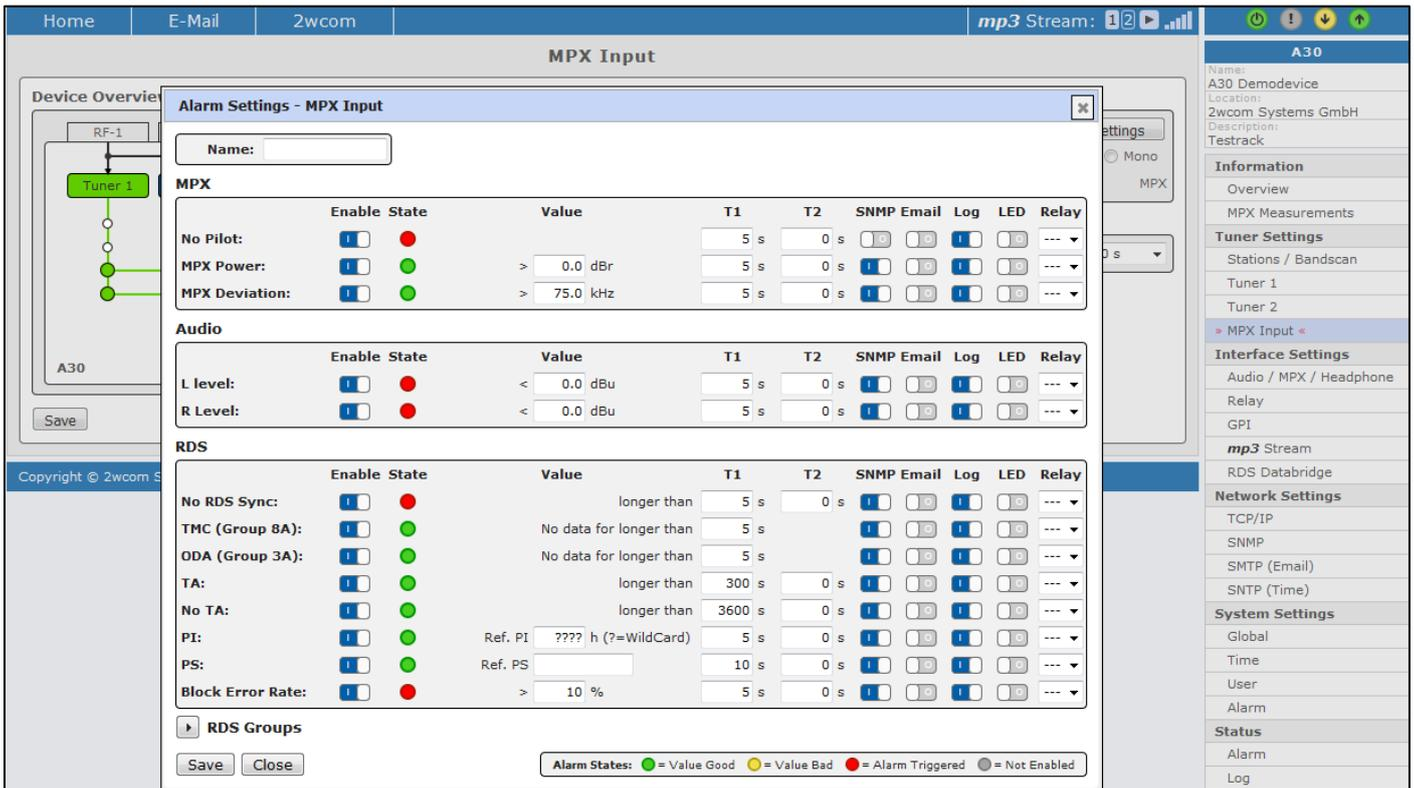

Fig. 38: Alarm Settings – MPX Input
3. Set up the monitoring parameters for MPX Input (see Fig. 38) as described in section 14.1.1 "FM Parameter" on page 55).